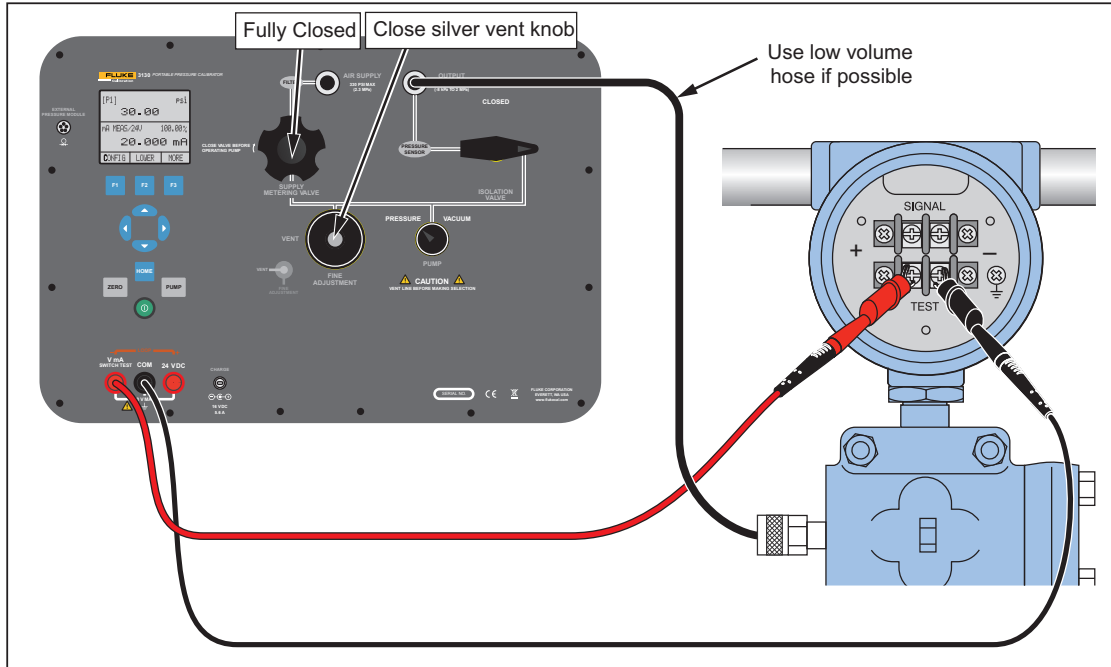

Figure 26. Calibrate a Pressure-to-Current Transmitter
4. Make sure that the read value is correct. If it is not correct, the transmitter must be adjusted. See Figure 26.